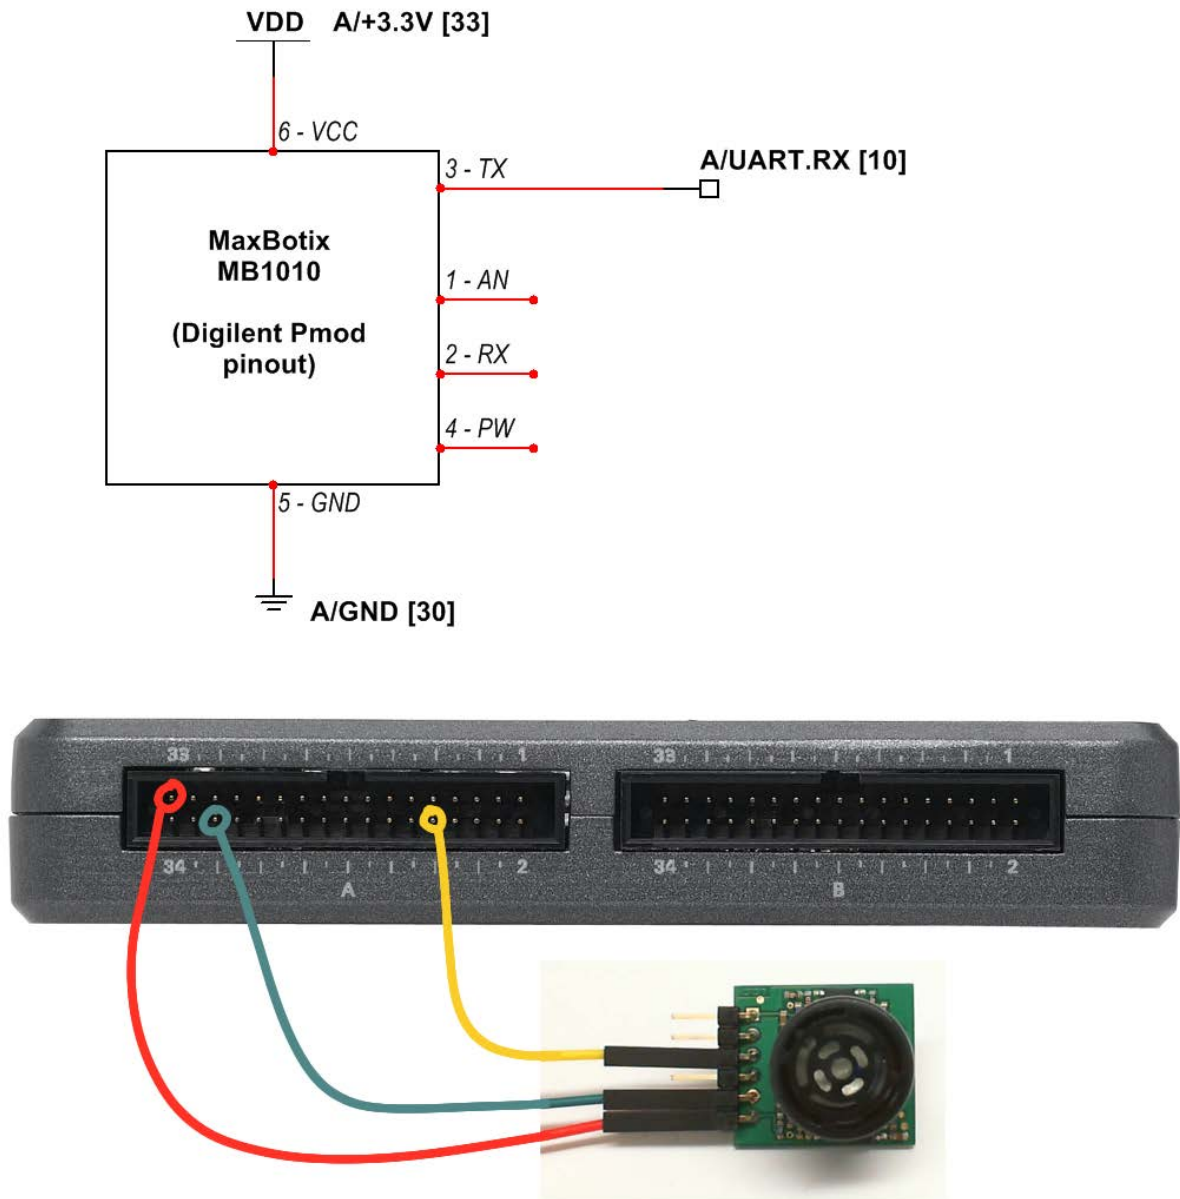

Figure 20.2: Demonstration setup for sonic range finder connected to NI myRIO MXP Connector A.
**Build the interface circuit:** Refer to the schematic diagram shown in Figure 20.2 on page 87; the sonic range finder requires three connections to NI myRIO MXP Connector A (see Figure A.1 on page 233):